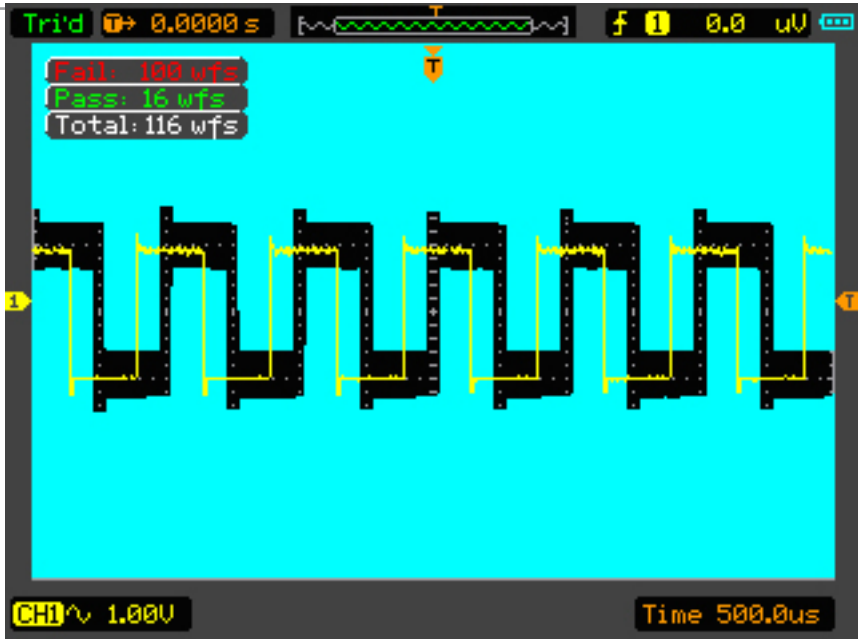

Figure 3-5 The Pass/Fail Window
- See the Pass/Fail window in figure 3-5.